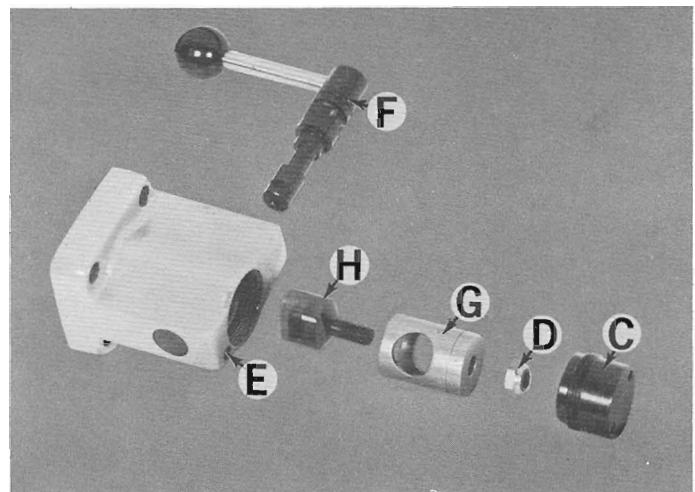

Figure 127 — Clutch Housing and Components
- (B). Remove cap "C", Figure 127, and nut "D".
- (C). Loosen set screw "E" and remove camshaft "F".
- (D) Remove sleeve "G" and bolt "H".
1. Using face spanner wrench remove threaded covers "C", Figure 127.